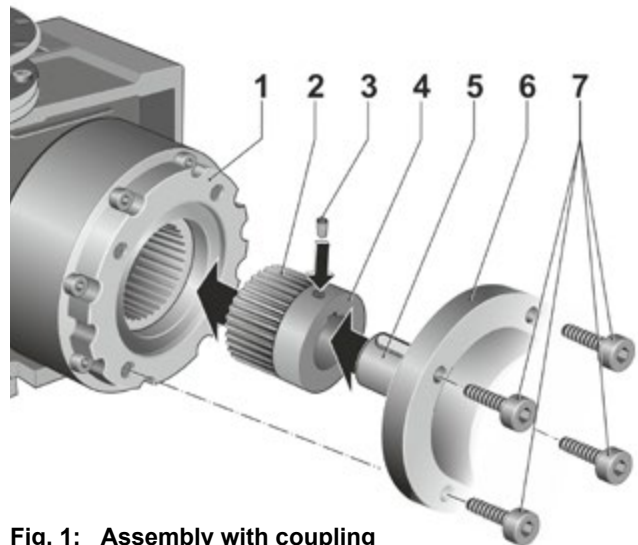
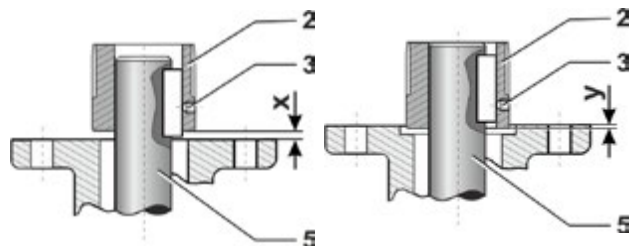

Fig. 1: Assembly with coupling
Fig. 2: Mounting position of the coupling
Depending on the order, the couplings for valves (fig.1, item 2) will be supplied unbored or e.g. with bore and keyway, square bore or bore with two flats.
1. Clean contact surfaces at part-turn gearboxes (fig. 1, item 1) and valve (item 6).
2. Slightly grease valve shaft (item 5) and splines of the coupling (item 2).
3. Fit coupling (item 4) onto valve shaft (item 5) and secure against axial shifting with grub screw (item 3) while heeding dimensions x, y (refer to fig. 2 and table below).
4. Place part-turn gearbox (item 1) onto valve (item 6):
5. Fasten part-turn gearbox with screws (item 7):